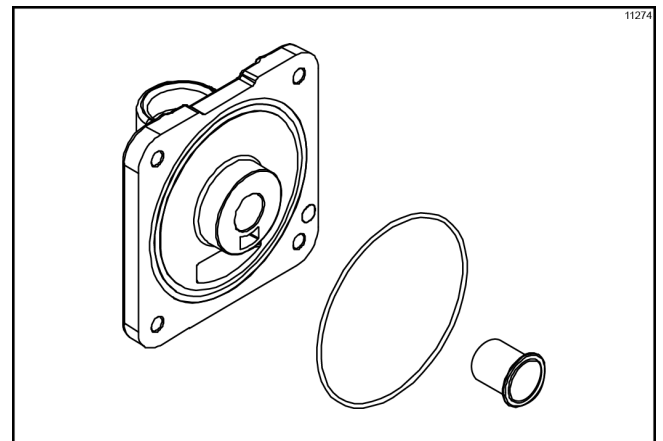

Figure-121
12. Place the freezer door O-ring into the groove on the back of the freezer door. Lubricate the outside diameter of the front bearing. Slide the front bearing into the door hub. (See Figure-121.)